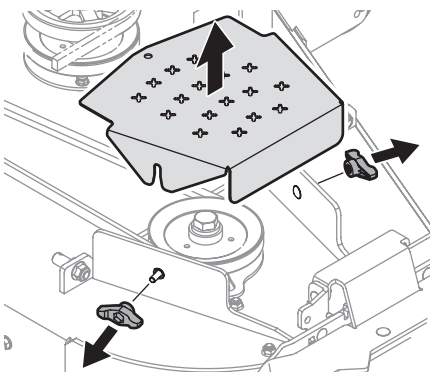

Figure 28
- Clean the top of the mower deck, under the spindle covers and belt area. See Figure 28.